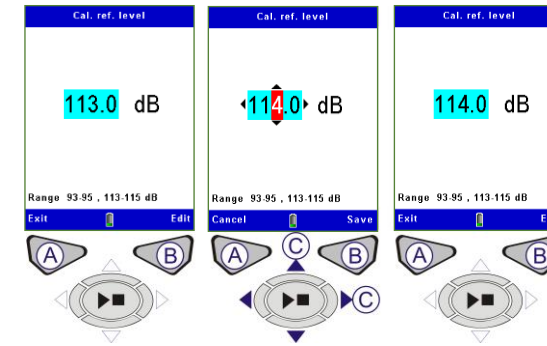

Figure 8 Cal. Ref. Level
**CAL. REF. LEVEL (Refer to Figure 8)**